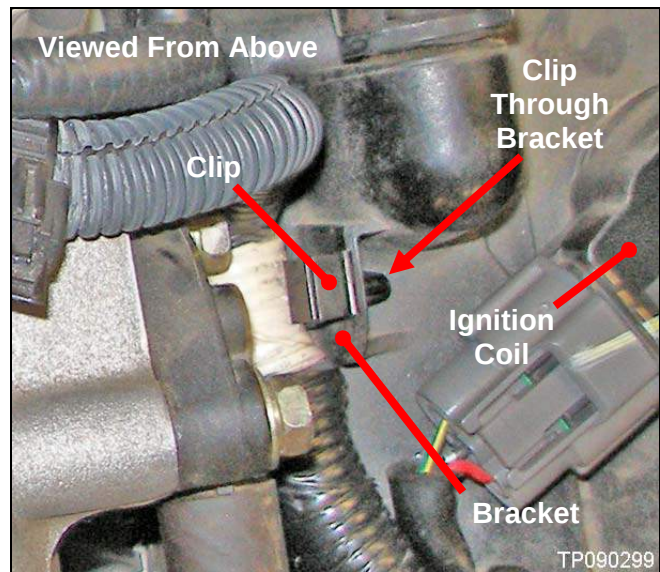

Figure 10
8. Install the clip onto the EGI harness (only) by slipping it between the EGI and jumper harnesses, and then snapping it to the bracket (see Figure 10).